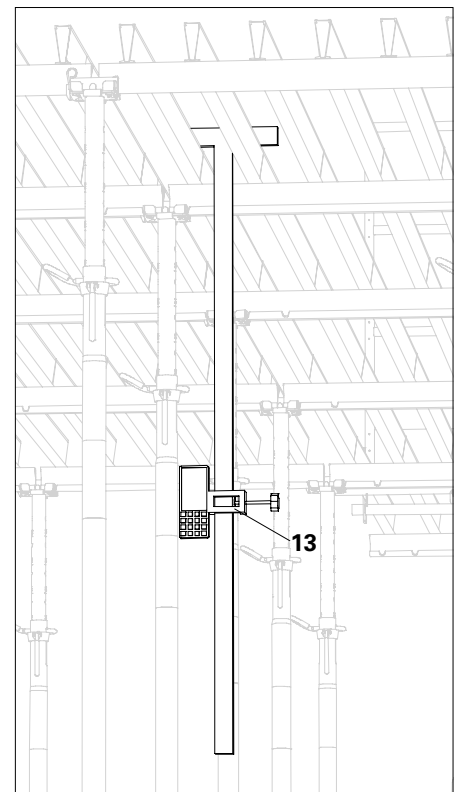

Fig. A8.02
Levelling aid (13) with a T-piece, e.g. made of formlining strips. (Fig. A8.02)